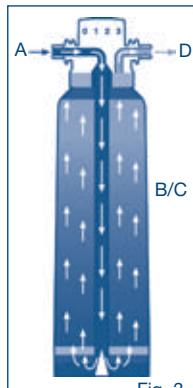

Fig. 3
The natural water (A) flows to the filter cartridge (Fig. 3). In area (B), particles are removed by means of a pre-filter while unpleasant odours and tastes, e.g. chlorine, are removed by active carbon (C).